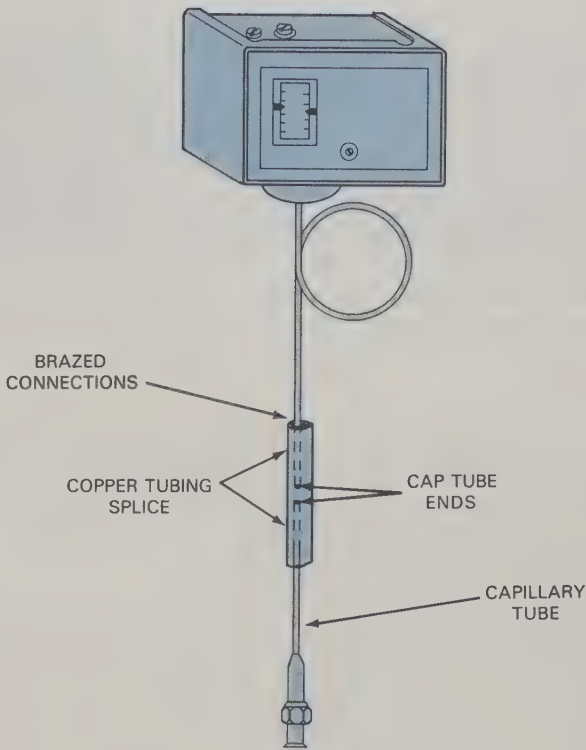

Fig. 23-14. Repair method for leaking capillary tube, using a piece of 1/4-in. copper tubing as a splice.
5. Use a 3- to 4-in. piece of 1/4-in. soft copper tubing to splice the capillary tube together. See Fig. 23-14. Use water-pump pliers to carefully **crimp** (squeeze closed) the openings at each end of the 1/4-in. copper tubing for easier brazing. Exercise care to prevent crimping the capillary tube.